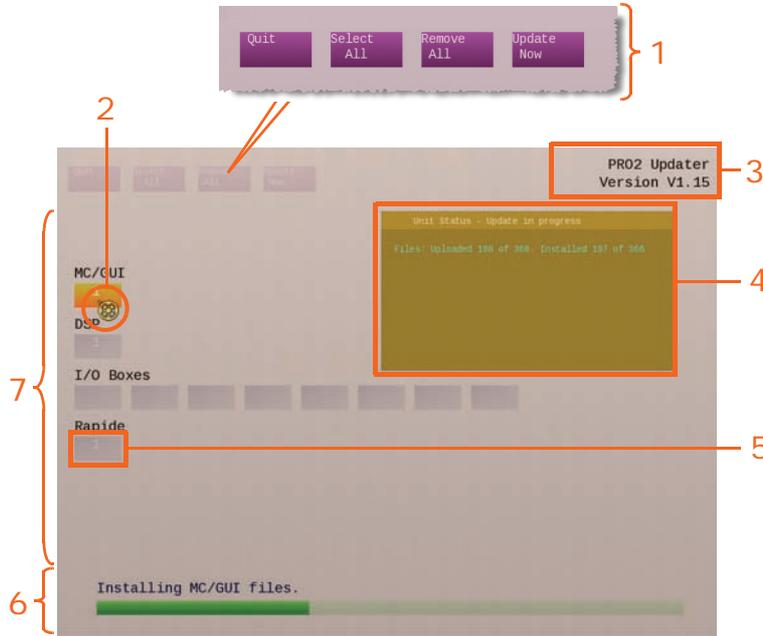

Figure 29: A typical updater display
- 8 Click **No Thank You** to start the upgrade. (If, at this point, you want to back up your shows and preferences, click **Yes Please**.) The device blocks will change colour according to their update status (see "Device blocks" on page 331). The green bar at the bottom will show the progress of the current action. A typical screen display during the update procedure is shown in Figure 29 "A typical updater display" on page 330.